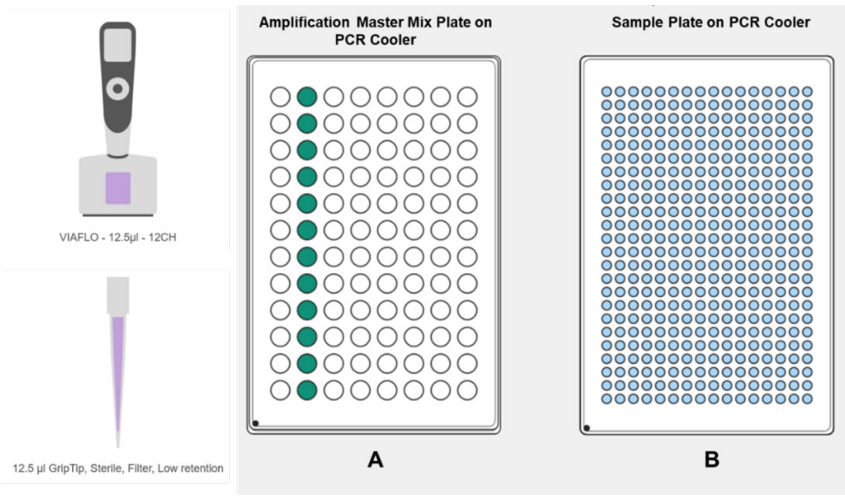

Figure 9: RO384_02_Lysis.
5. Place the cold 96-well and 384-well PCR cooling blocks onto the ASSIST PLUS deck at Positions A and B, respectively (Figure 9).
6. Place the Amplification Master Mix plate on the 96-well PCR cooling block in Position A and place the sample plate on the 384-well PCR cooling block in Position B with position A1 of both plates in the bottom left corner, as indicated by the dot in Figure 9.